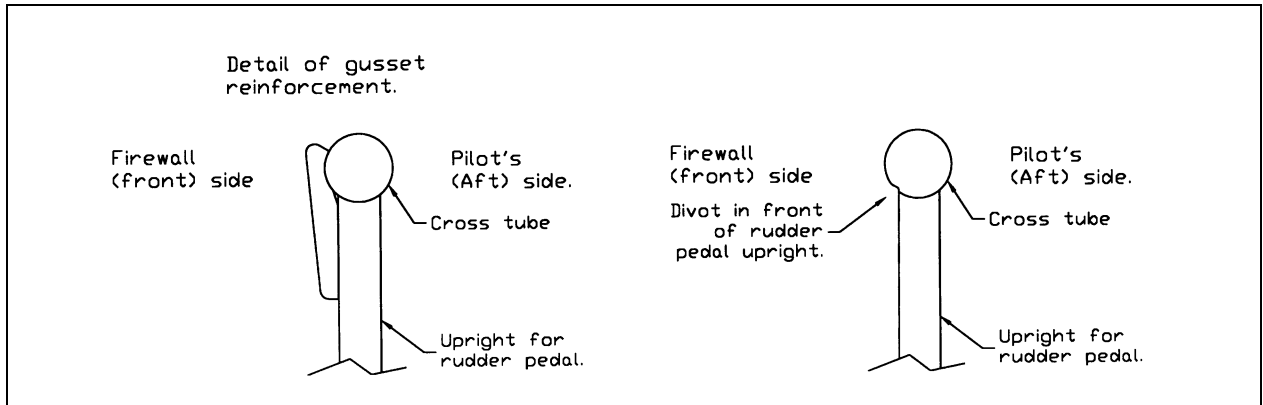

FIGURE 1: GUSSET DETAIL
Step 1: Check that your rudder pedals have gussets installed, as shown in Figure 1. Also refer to KAI drawing 43A.